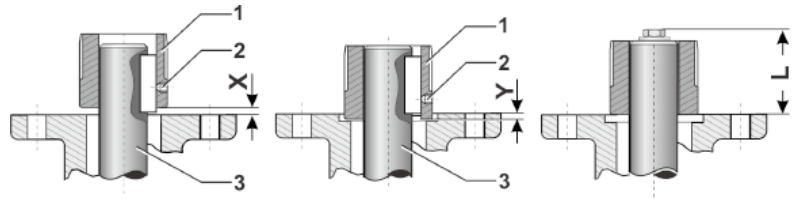

Fig. 3: Mounting positions of the couplings
2. Fit coupling (item 2) onto valve shaft (5) and secure against axial shifting with grub screw (3) or spring washers and screw with spring ring (3a), while heeding dimensions X, Y, L (refer to fig. 3 and table below).